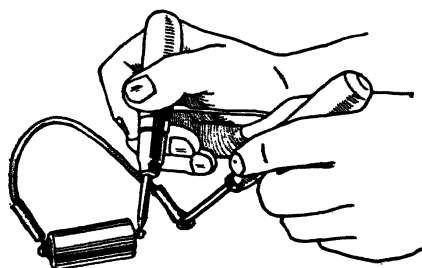
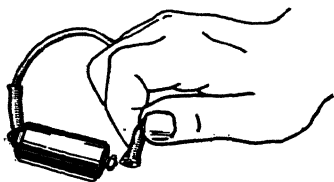

Fig. 8. Testing the Condenser
Fig. 9. Condenser Capacity Test
**Testing the Condenser.** The test points and lamp may be used to test the condenser, as shown in Fig. 8. The condenser is removed and laid on the bench top or in other insulated position. The 110-volt alternating current is used. If the lamp lights, the condenser is in bad condition and should be discarded in favor of a new one.
If the lamp does not light, make the test shown in Fig. 9, which is termed a capacity test. After the test shown in Fig. 8 has been completed with the condenser apparently in good condition, grasp the pig tail and bring it to the contact screw as shown. As it is